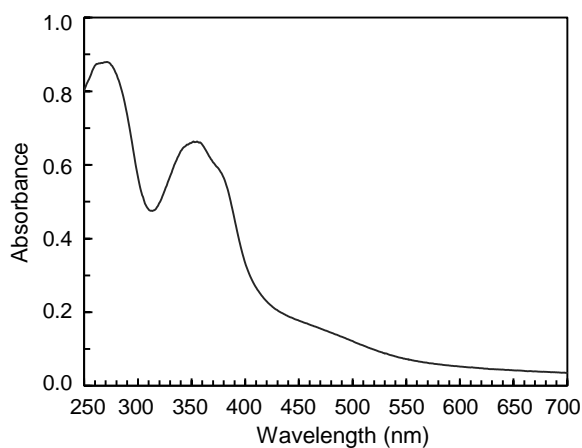

Fig. S1 UV-vis absorption spectrum of suspensions in 2×10^{-5} M THF/H₂O (1/4, v/v).
2. Fig. S1 UV-vis absorption spectrum of suspensions in 2×10^{-5} M THF/H ₂ O ..	pS2